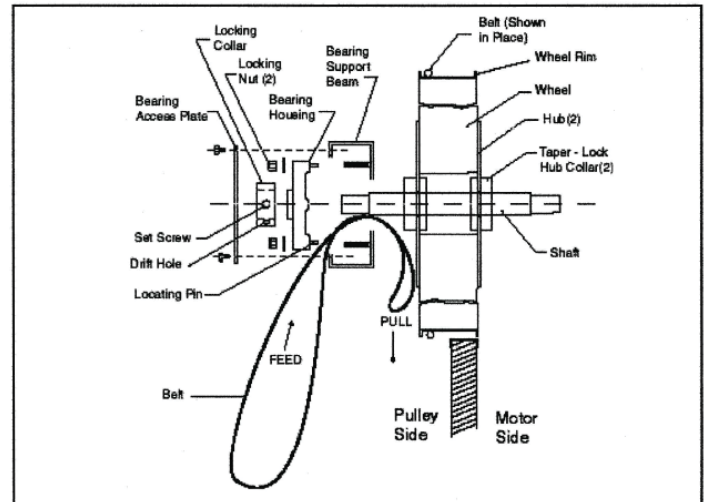

Figure 8 Belt Replacement (Figure 8 shown with diameter seals removed)
5. Form a small loop of belt and pass it through the hole in the bearing support beam. Grasp the belt at the wheel hub and pull the entire belt down. Loop the trailing end of the belt over the shaft (Fig. 8 shows belt partially through the opening).